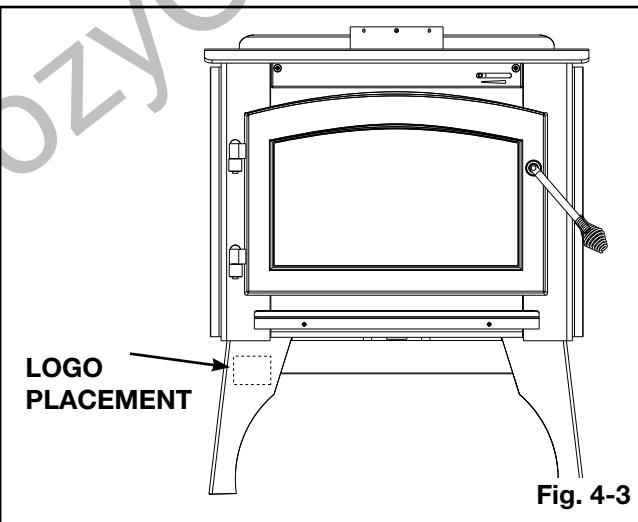

Fig. 4-3
- Place logo as illustrated (**Fig. 4-3**). For additional logo placement locations, see “optional ash drawer” section.